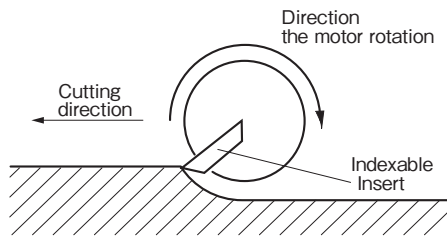

Fig.4
(2) Cutting direction should be in the same direction as the motor rotation. (Fig.4)